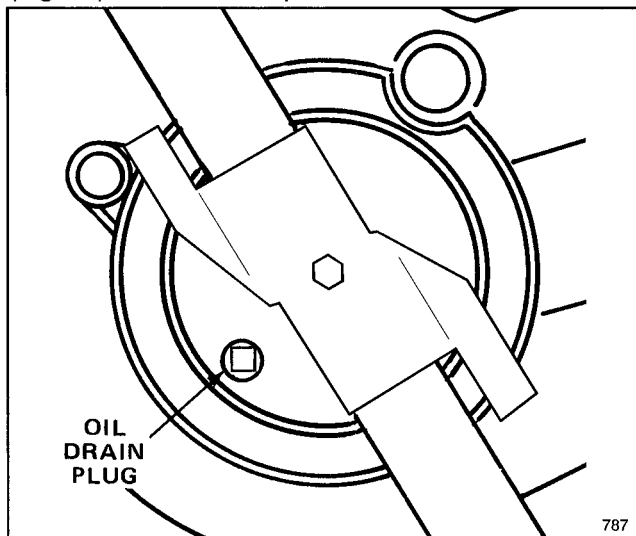

Figure 16
3. Tip mower on its right side. Remove drain plug from underside of mower using a 3/8" square drive (Fig. 16). Place a drain pan under mower.